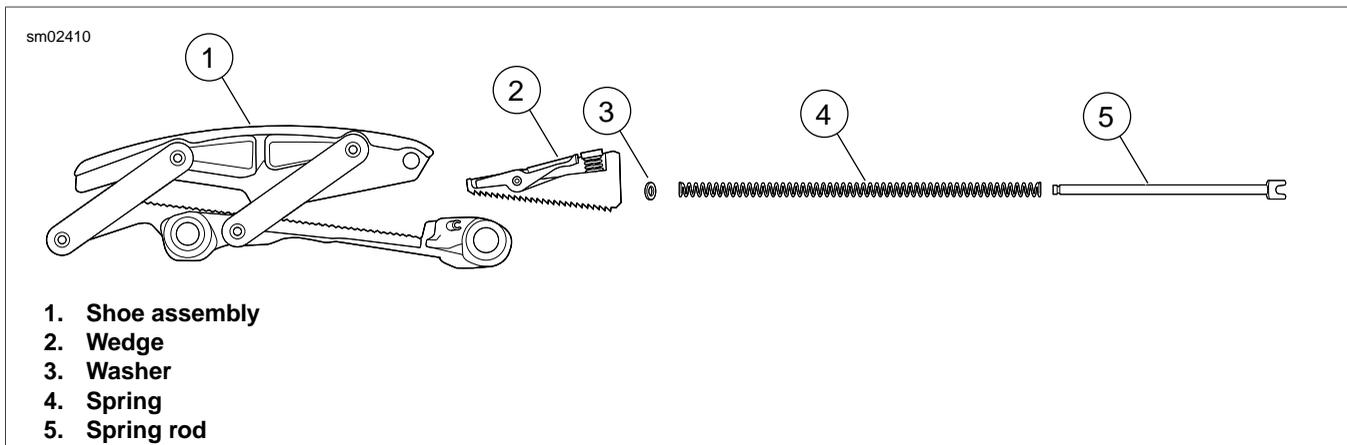

Figure 6-14. Primary Chain Tensioner Assembly
- See Figure 6-14. Although primary chain tensioner is sold as an assembly, tensioner parts can be disassembled. If primary chain tensioner becomes disassembled, assemble in order shown.